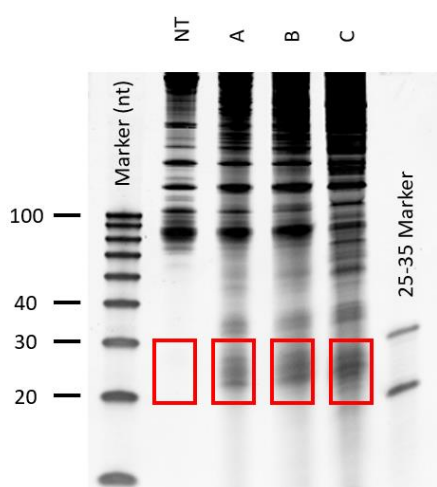

Fig.6 Example of RNA extracted after nuclease titration run on 15% TBE-Urea gel. In the red square the sizes between 25-35 nt.
As depicted in the figure above, not digested sample does not present the typical enrichment of fragments at 25-35 nt (red square in Fig.6). Under-digested sample (A) does not display a high enrichment of RPFs, while the over-digested sample (C) shows a smear of signal on the gel. In this example, the quantity of Nux used in sample B (AU x 5) needs to be utilized for all the reactions.